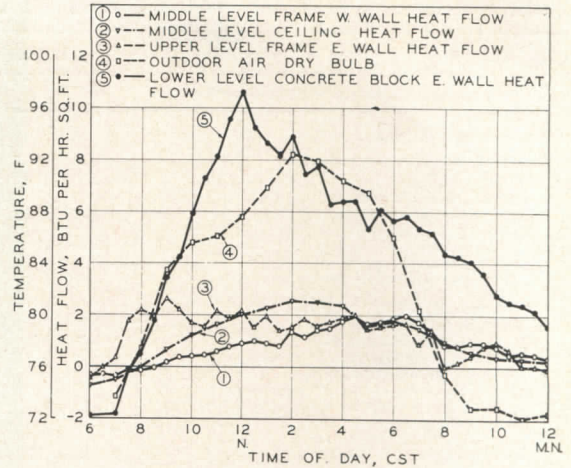

Figure 2. HEAT FLOW AND TEMPERATURE STUDY WARM AIR RESIDENCE NO. 4
*Maximum Load Period.* Figure 2 shows the outdoor dry bulb temperature and the heat flow rates through three walls and one ceiling of W. A. Residence No. 4 on a near-design day for the period from 6:00 AM to 12 midnight CST. The curves show the effects of wall construction and orientation on the heat flow. The heat flow rate through the uninsulated lower level concrete block east wall increased rapidly after 7:00 AM because of the direct exposure to the morning sun, decreasing after the peak heat flow rate of 10.5 Btuh per sq ft was reached at 12:00 noon. Maximum heat flow through the upper level east frame wall was recorded at 9:00 AM since shading provided by the roof overhang caused a decrease after that time. The heat flow through the west frame wall on the middle level reached a peak at 6:30 PM; that through the ceiling between 2:00 and 3:00 PM.